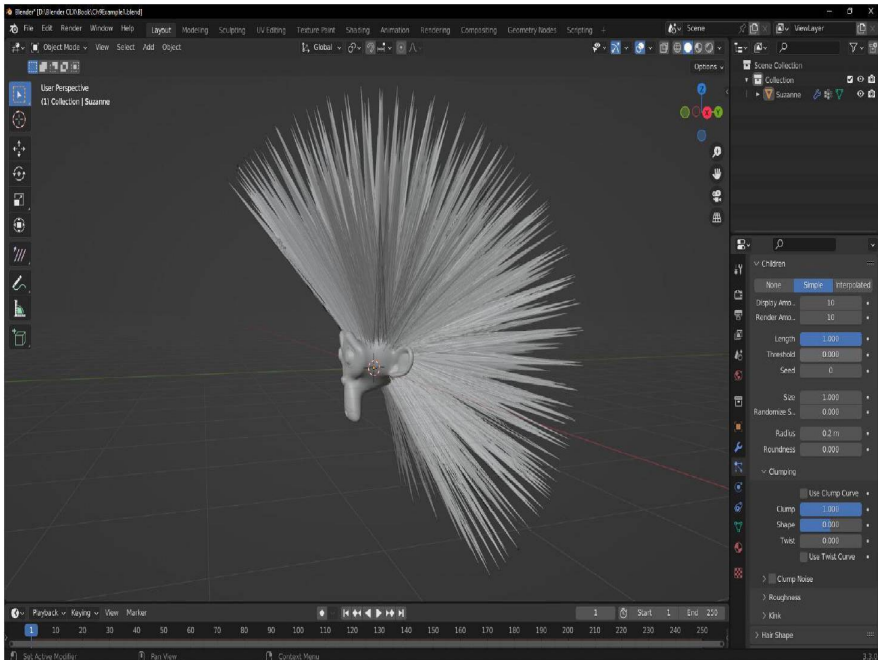

Figure 9.4: 10 Hair Particle Children per parent hair with Clump amount set to 1.
20. Also, from the **Children** section of the **Particle Parameters** panel, we can expand the **Clumping** section, and increase the **Clump** amount, which will look more like spikes, as shown in *Figure 9.4*: